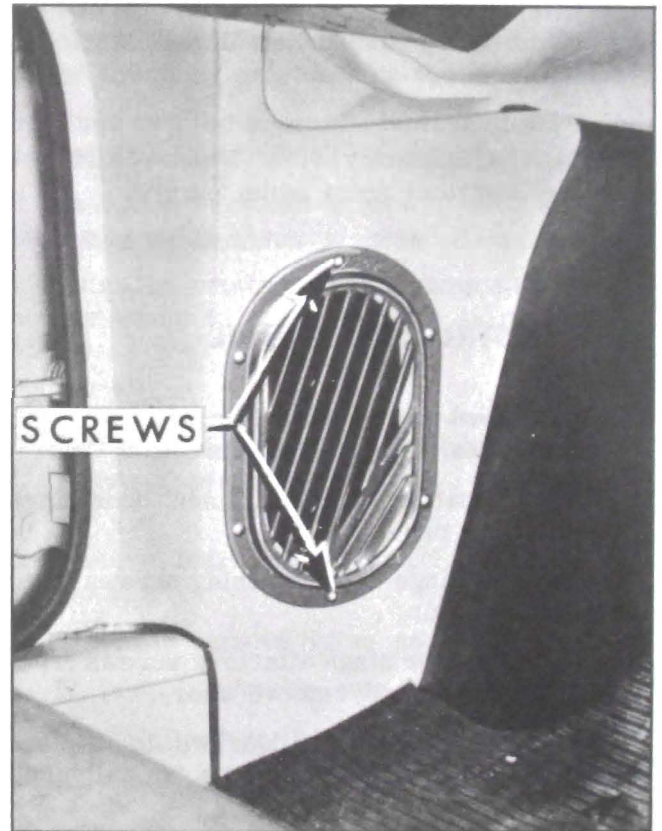

Figure 13-24—Shroud Side Foundation
1. Remove screws indicated in Figure 13-24 securing upper and lower end of air inlet grille.